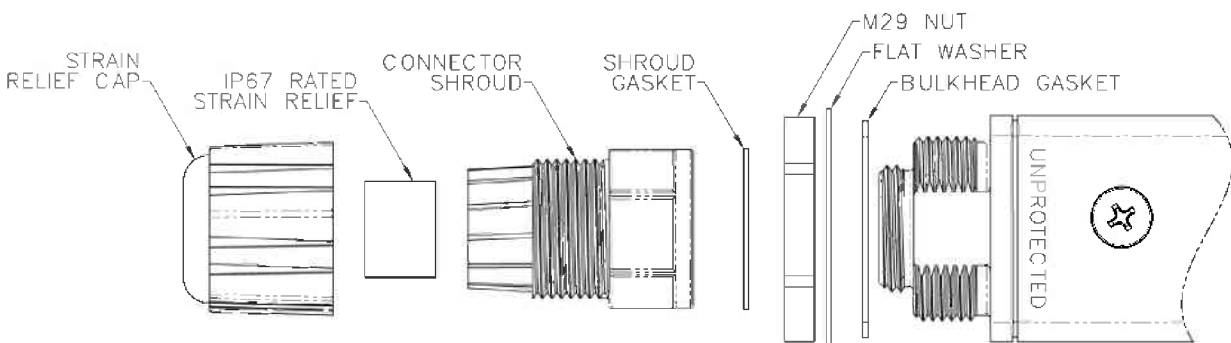

Figure 3. Installation Hardware Accessories (provided with unit)
- 5.3. Slide the Cat5e cable through the strain relief cap first. Then slide through the connector shroud. Install the IP67 rated strain relief over the cable between the cap and connector shroud. Place the shroud gasket on the unit over the M20 x 1.5 threaded portion. Plug the connector into the unit and torque the connector shroud down with 5 to 7 in-lbf to compress the gasket (do not over-tighten the connector shroud on the gasket). Slide the IP67 rated strain relief into the connector shroud (leaving approximately 1mm of the strain relief exposed). Torque the strain relief cap onto the connector shroud with 3 to 5 in-lbf. (see Figure 3).